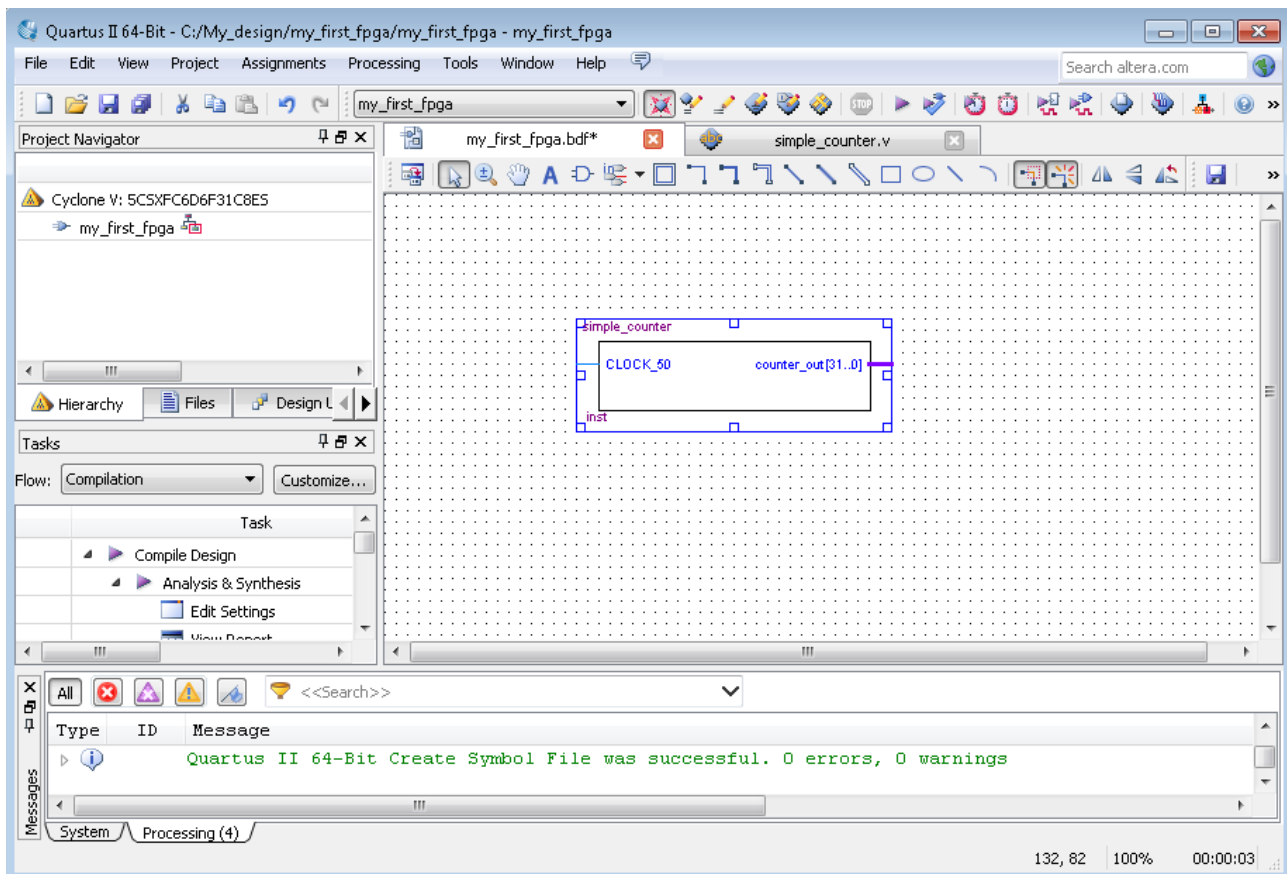

Figure 3-7 Placing the simple_counter symbol
17. Move the cursor to the BDF grid; the symbol image moves with the cursor. Click to place the simple_counter symbol onto the BDF. You can move the block after placing it by simply clicking and dragging it to where you want it and releasing the mouse button to place it. See Figure 3-7.